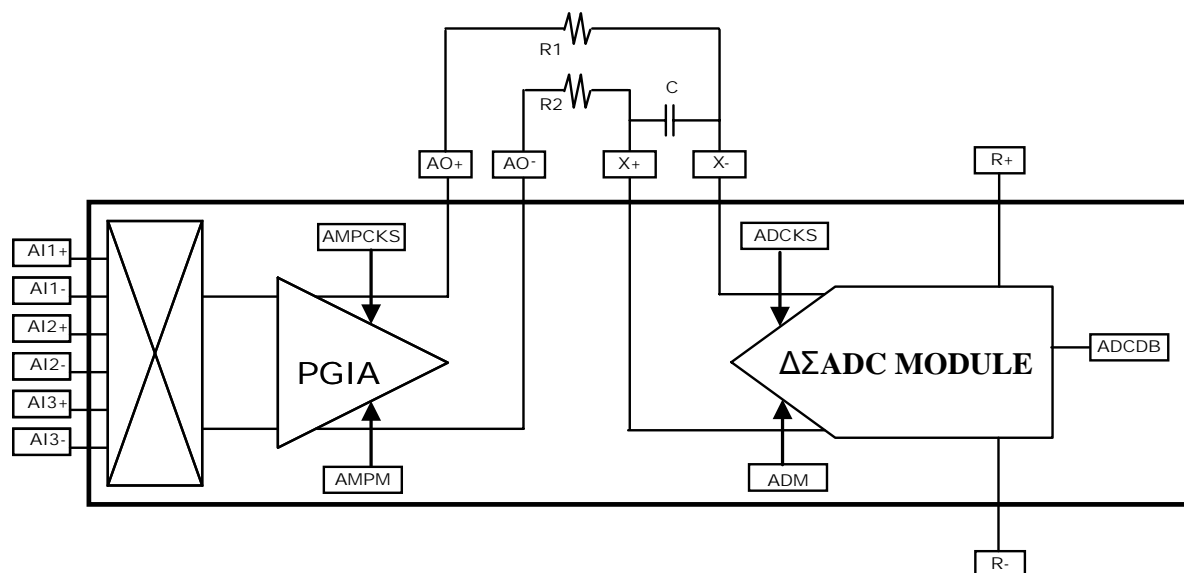

Figure 13-1 Block Diagram of ADC module
Figure 13-1 illustrates a block diagram of the PGIA and ADC module. The front end consists of a multiplexer for input channel selection, a PGIA (Programmable Gain Instrumentation Amplifier), and the $\Delta \Sigma$ ADC modulator.
- **Note 1:** In figure 13-1, the low pass filter (R1, R2 and C) will filter out chopper frequency of PGIA.